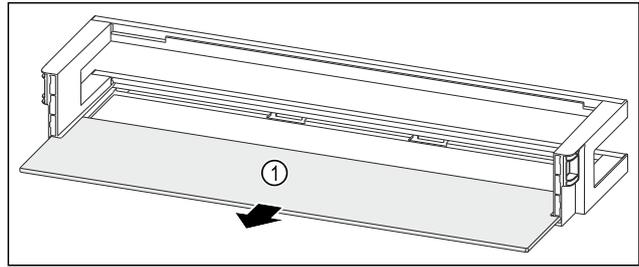

Fig. 84 Door rack with shelf
- ▶ Remove the shelf Fig. 84 (1).